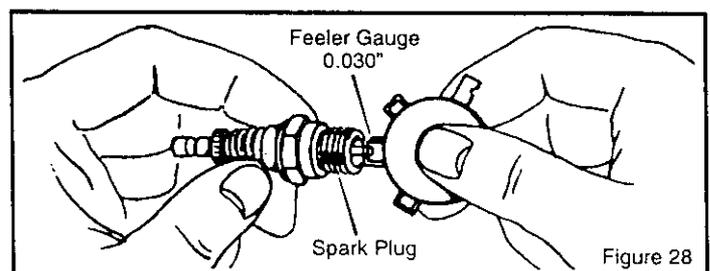

Figure 28
1. Check the gap of the **spark plug** with a **feeler gauge** (Figure 28). The correct gap is **0.030"**.